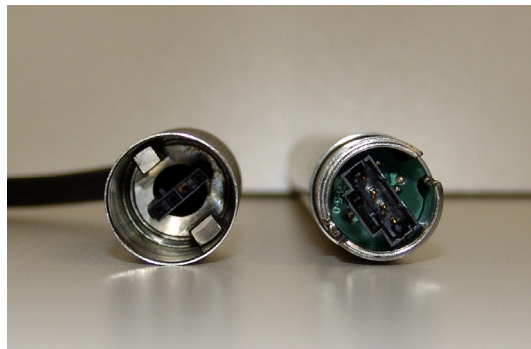

Figure 2.1
- Look inside the cable end of the connectors to view how the two sections mate together. The two keys in the transducer and cable are two different sizes. This is important to note to ensure proper alignment (figure 2.1).